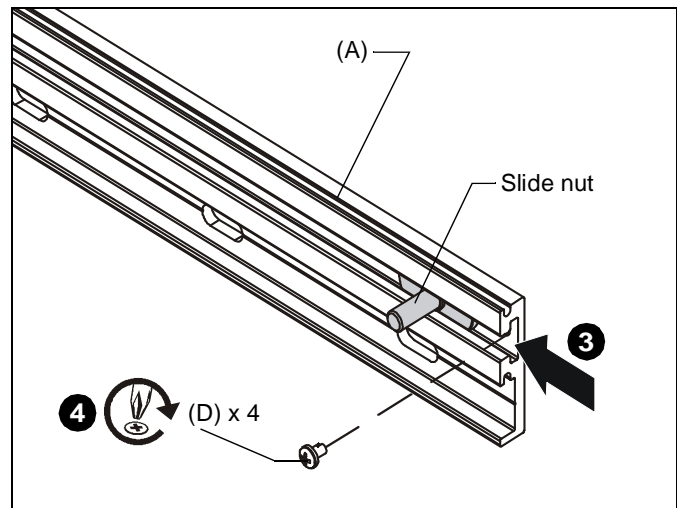

Figure 4
3. Insert two slide nuts into slot of each slide bracket (A). (See Figure 4)
4. Insert one #8 x 1/4" Phillips tap screw (D) at each end of both lateral brackets to hold slide nuts in lateral brackets. (See Figure 4)